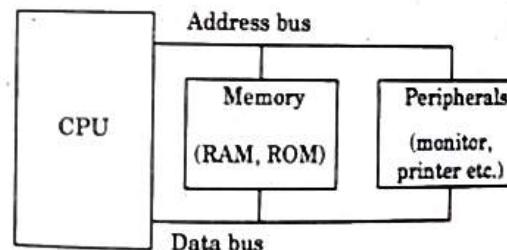

Fig. 4.1.1. Inside the computer.
1. The internal working of every computer can be broken down into three parts : CPU (Central Processing Unit), memory and I/O (Input/Output) devices as shown in Fig. 4.1.1.